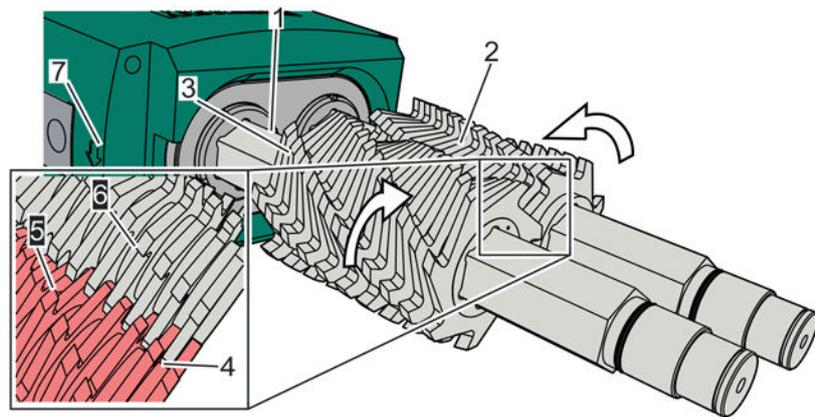

Fig. 76: Sliding on the cutter blocks in pairs, example
1. ➔ Lightly grease drive shafts (Fig. 76/1).
Slide on the cutter blocks (Fig. 76/2, 3) in pairs, with the blade tips (Fig. 76/5, 6) pointing towards each other and the blade tip and the groove (Fig. 76/4) engaging in the correct position onto the drive shafts (Fig. 76/1) up to the stop.